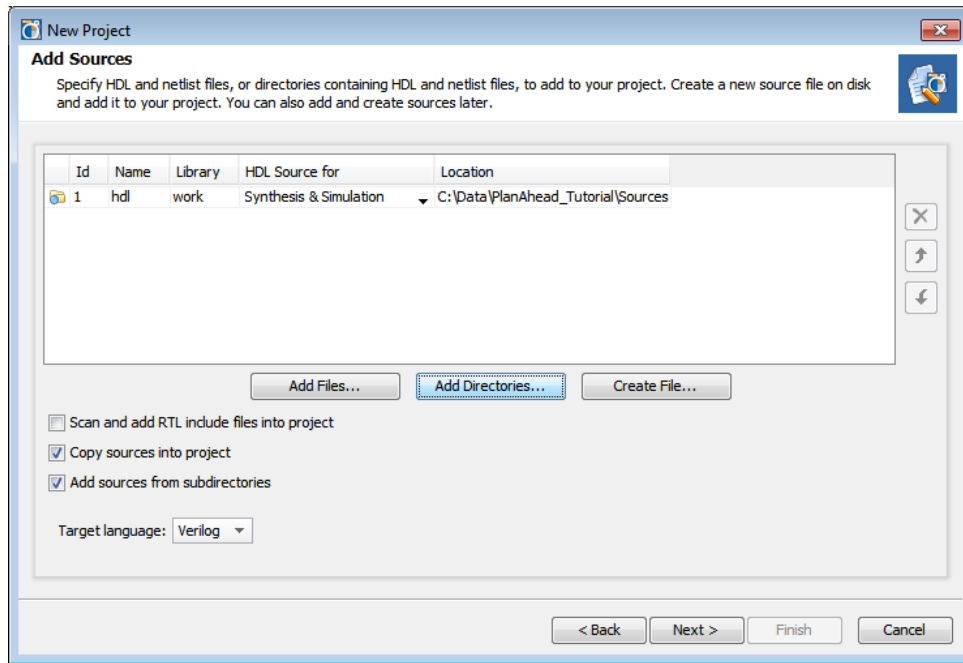

Figure 4: New Project: Add Sources Dialog Box
3. Check that the Add Source dialog box matches what is shown in Figure 4, and click **Next**.